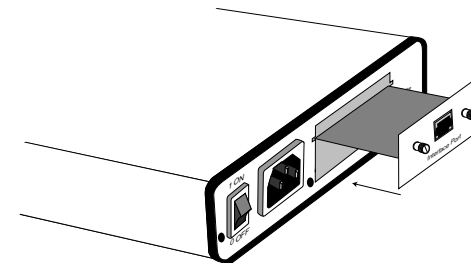

Figure 4. Installation of Model IM 1/F-128K Plug-in Serial Interface Module
3. While keeping the module's faceplate parallel with the Modem rear panel, slide the module straight in so that the card edge contacts line up with the socket inside the chassis. Refer to Figure 4 below.